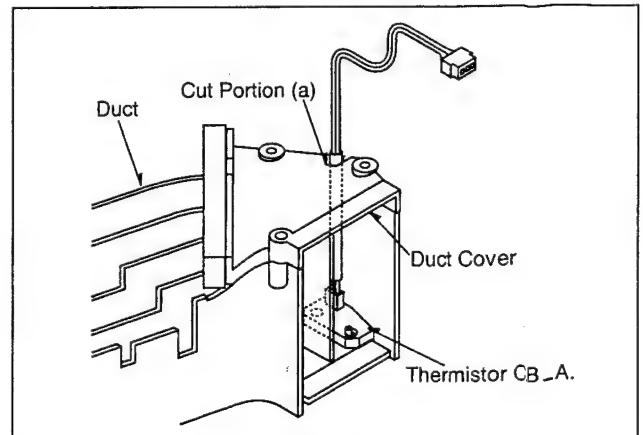

Fig. O13
2. Insert the lead wire of Thermistor C.B.A. in the cut portion (a) of the Duct Cover as shown in the Fig. O13.